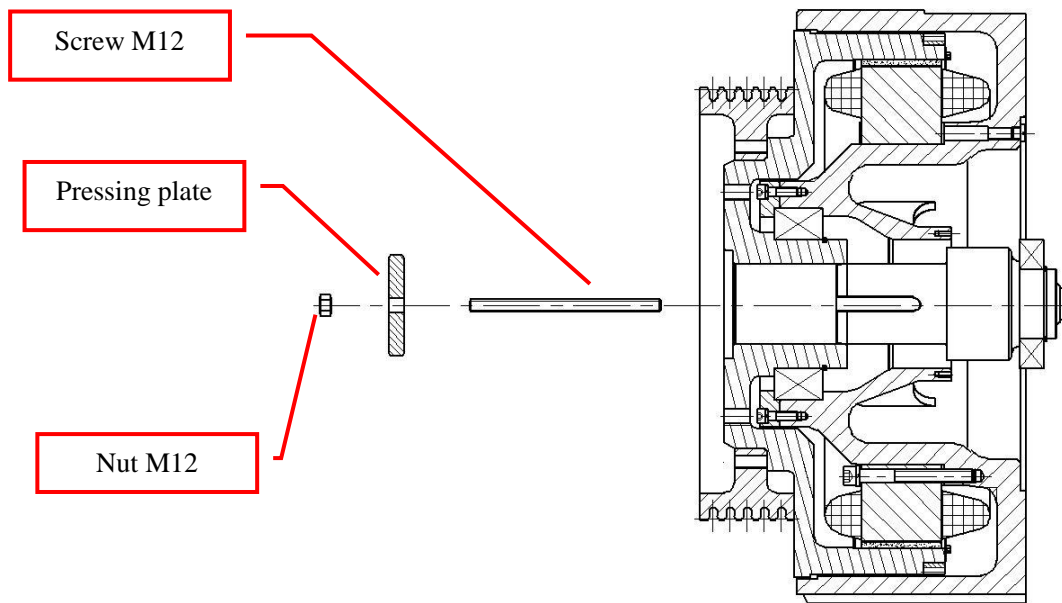

Figure 52: Install pressing plate
3. Screw the screw M12 into the center threaded hole of the main shaft, then install the pressing plate and nut M12 onto the screw M12. See Figure 52.